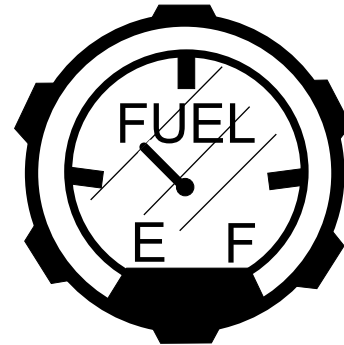

Figure 6. Fuel Gauge
1. Determine if the engine fuel is low (Figure 6). If fuel level is low, remove the fuel filler cap and fill with either diesel fuel or regular unleaded gasoline depending on the type of engine. Handle fuel safely. Motor fuels are highly flammable and can be dangerous if mishandled. **DO NOT** smoke while refueling. Do not attempt to refuel the ride-on trowel if the engine is hot or running.